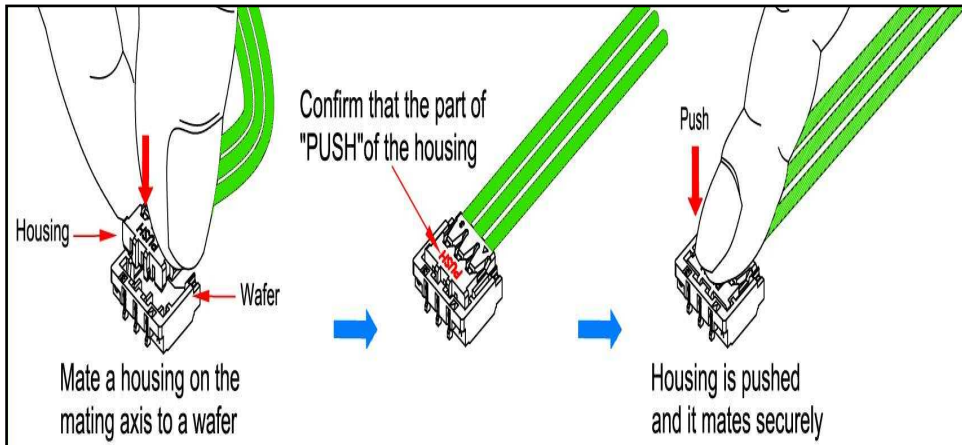

figure 3.2
3.2 Mate a housing on the mating axis to a wafer. Later in time, confirm that the part of "PUSH" of the housing is pushed and it mates securely.(see figure 3.2)